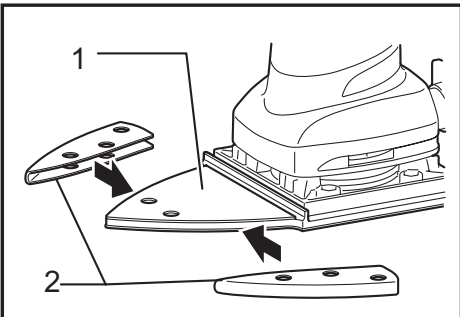

Fig.4
► Fig.4: 1. Base 2. Velcro sandpaper